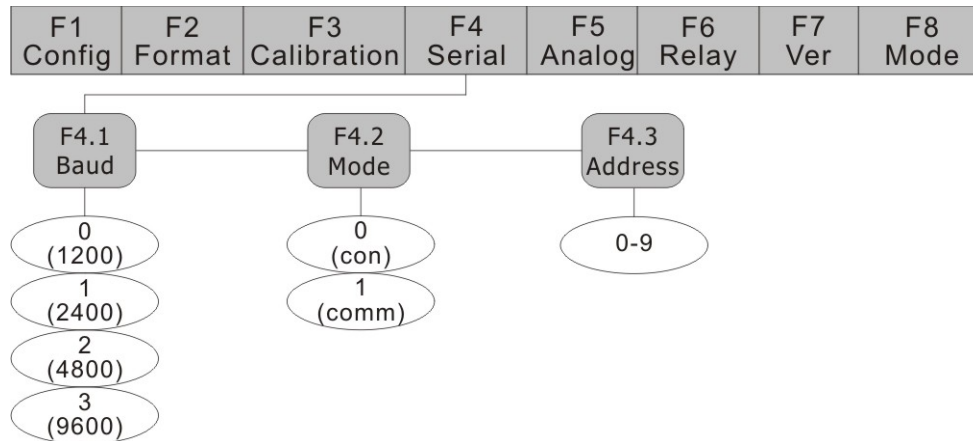
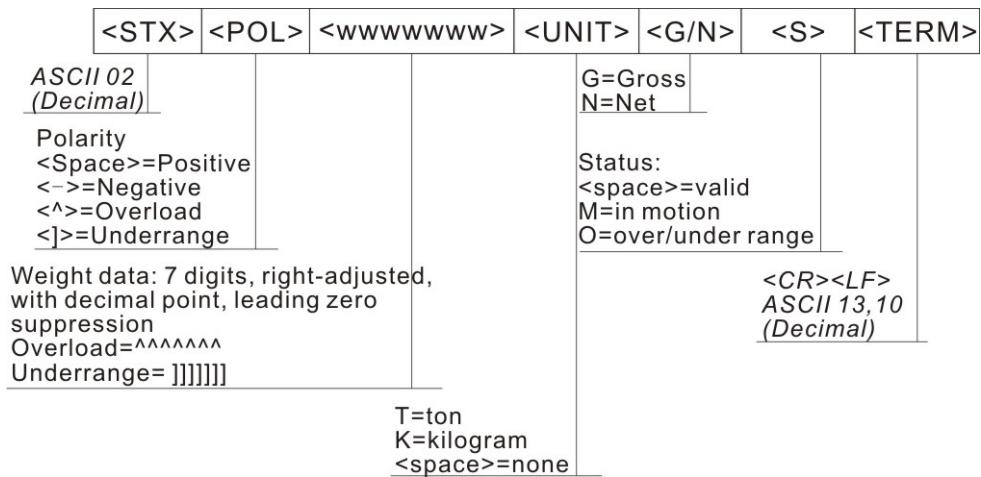

Fig.7-1 F4 Serial Communication Menu
Fig.7-2 Format of Continuous Transmission
- (1) Set indicator to the Configuration mode (display shows "F 1")
- (2) Press **【TARE】** until display shows "F 4" (see Fig. 7-1). Press **【ZERO】** to go to F4 Menu. Display shows "F4.1".
- (3) When display shows "F 4.1", press **【TARE】** until display shows "F4.2".
- (4) When display shows "F 4.2", press **【ZERO】** to show serial communication code. Use **【TARE】** to set serial communication code to 0 (data transmitted continuously), press **【ZERO】** to save.
- (5) Press the **【SET】** twice to exit from the configuration mode. After selecting continuous transmission mode (F4.4=0), indicator transmits data continuously according to Fig. 7-2.